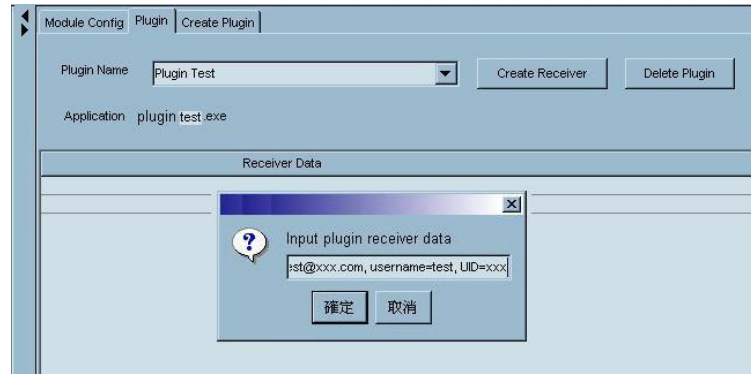

Figure 3-21: Create Plug-in Receiver Profile
-  **Step 6.** Enter the configuration string to be read when the application program starts. (See *Figure 3-21*) A configuration argument may look like this: